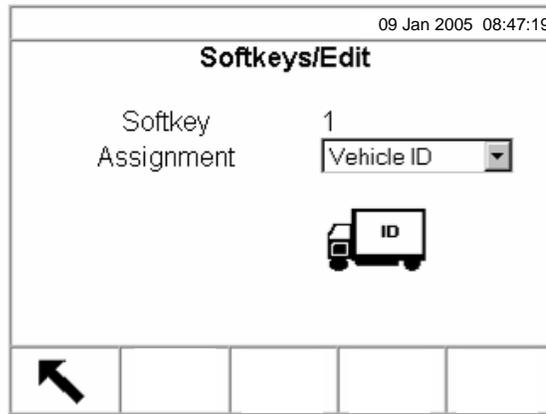

Figure F-5: Softkeys/Edit Setup Screen
2. Press the EDIT softkey.  The Softkeys/Edit screen (Figure F-5) displays. The softkey selected for editing is shown on the screen along with the current assignment and the icon associated with that assignment.